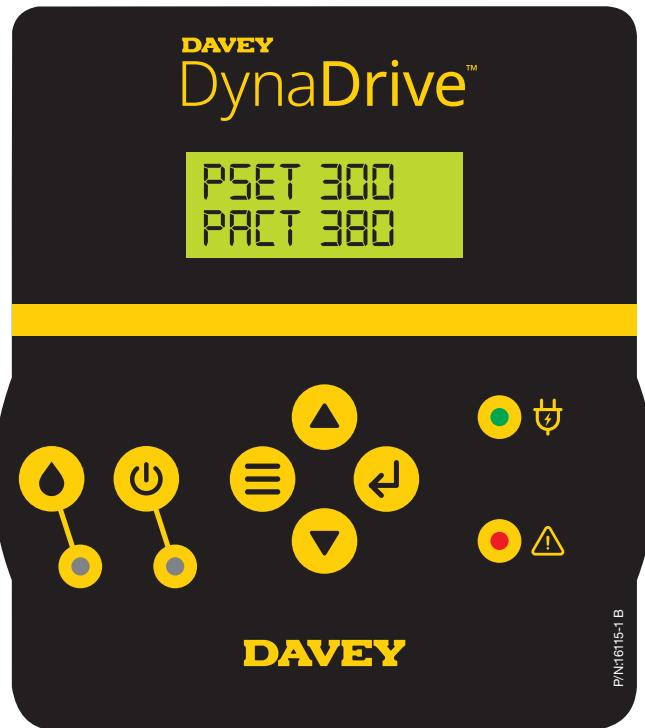

Figure 6.12
- Press **◀ Enter button**, or **☰ Menu button** to return to the **HOME SCREEN**, see figure 6.12;